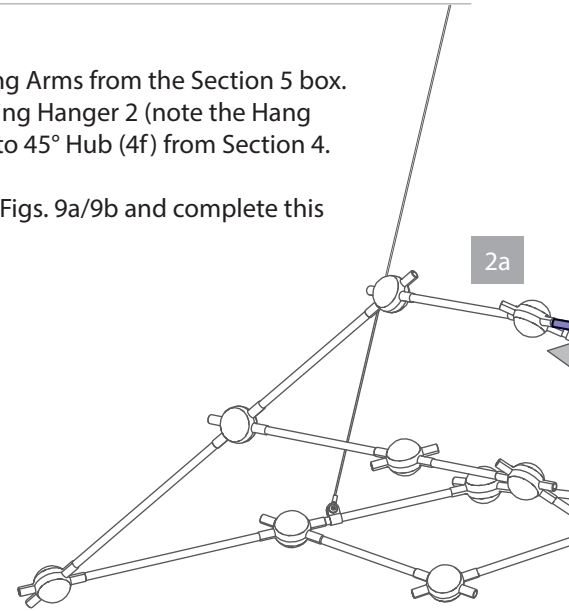

Fig. 9a - Angled Front View
- Start by securing a C13 Arm and 45° Hub (5a) to the remaining Hang Clip from Ceiling Hanger 2 (note the Hang Clip orientation in Figs. 9a/9b) approx. ½" from the Hub, then connect the C4 Arm to 45° Hub (4f) from Section 4. Then connect C12 Arm and 45° Hub (5b) to 45° Hub (2d) from Section 2.
- Continue by connecting Arms and 45° Hubs following the order and pattern in the Figs. 9a/9b and complete this section by connecting the remaining C4 Arm to the 45° Hub (2a) from Section 2.